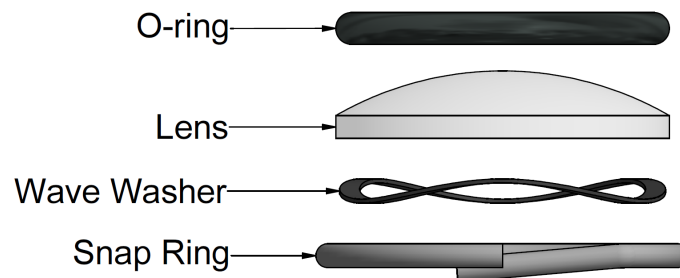

Figure 1: Lens Installation
1. If neither lens AGG02 nor AGG03 is needed, go to step 2. Place thermal barrier THERMAL-1X75 so that the end with external threads is facing up. In order, drop in the O-ring, lens (for AGG03, the domed side should face the O-ring), wave washer, and snap ring as shown below in Figure 1. The snap ring should snap into the annular groove of THERMAL-1X75.